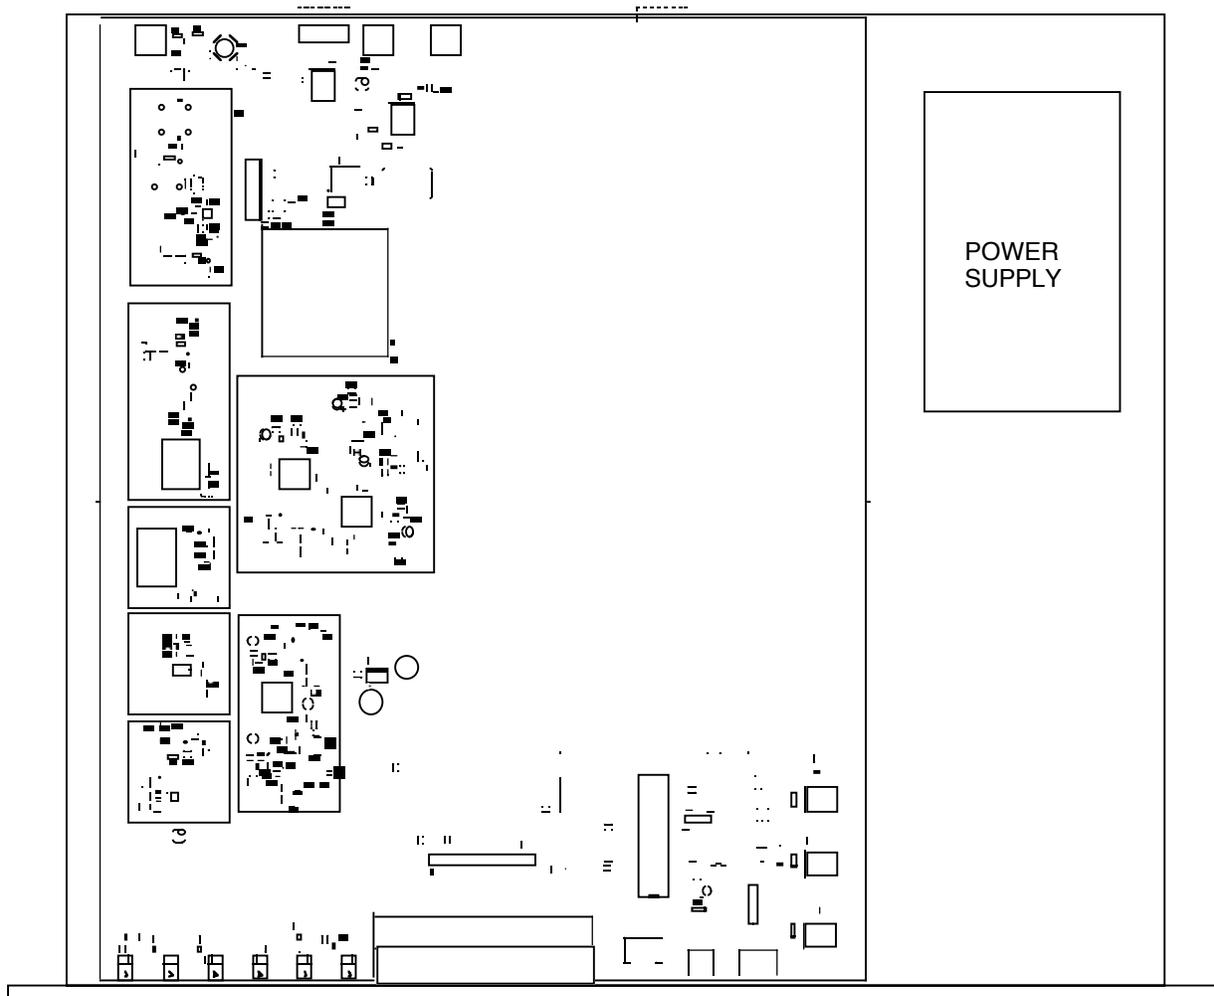

FIGURE 2.0 2015-03-01 Mechanical Assembly
2.1 Mechanical - The 2015-03-01 consists of one RF/Controller PCB housed in a 1 RU (1 3/4 inch high) by 16 inch deep chassis. A switching, ± 12 , +24, +5 VDC power supply provides power for the assemblies. The 2015-03-01 can be secured to a rack using the 4 holes on the front panel. Figure 2.0 shows how the 2015-03-01 is assembled.